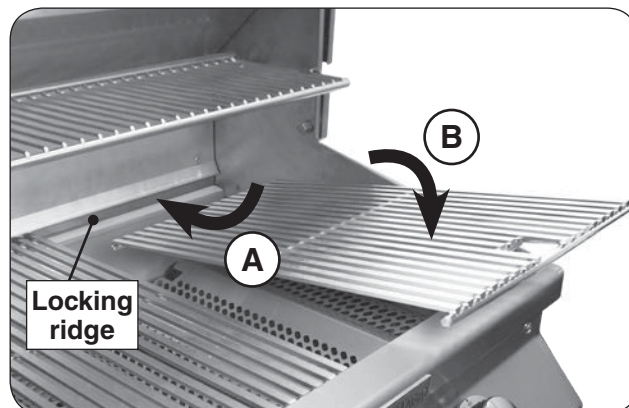

Fig. 21-4 Install cooking grids
- Carefully place the rear of a cooking grid between the locking ridge of the rear wall (see Fig. 21-4, A). Then, carefully place the front of the cooking grid onto the front grid rest of the grill (see Fig. 21-4, B).